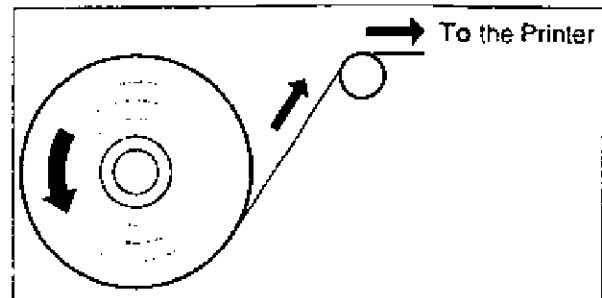

Fig.1
- Orient the paper roll so that it rotates in a counterclockwise direction, as shown in Fig.1.